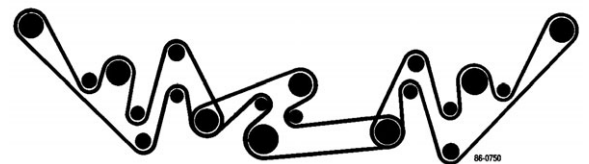

Figure 76
10. Route the new belt around the appropriate pulleys as shown in figure 76.